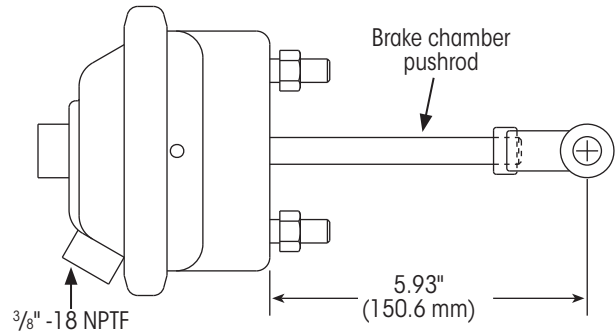

Figure 45: Brake chamber free length
1. **Measure** the brake chamber pushrod. If necessary, rotate the clevis to obtain a free length of 5.93 inches (Figure 45).